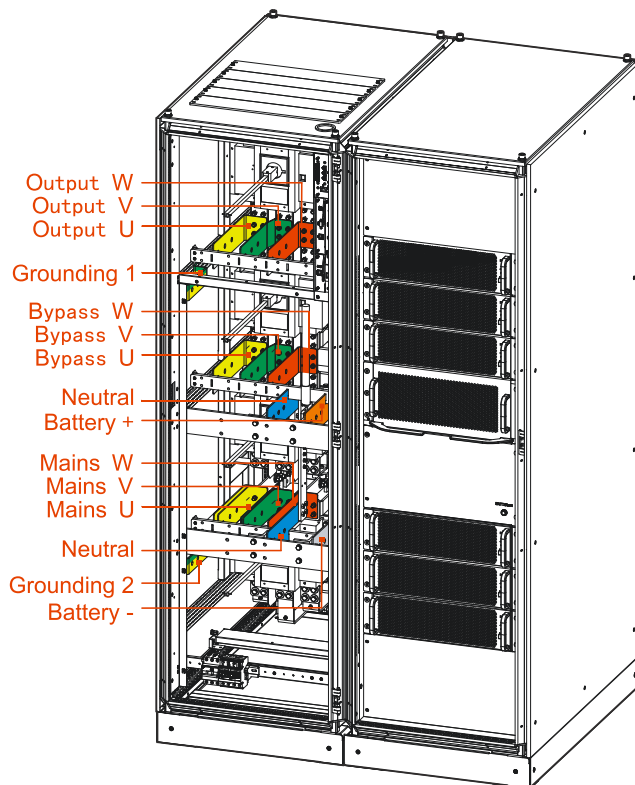

Figure3-21 Wiring position of IST6400, IST6500 and IST6600
Step 3 Follow the order to connect wires: grounding wire, mains input wire, bypass input wire, battery wire, neutral wire, output wire, and then fasten the bolts, as shown in Figure3-21.